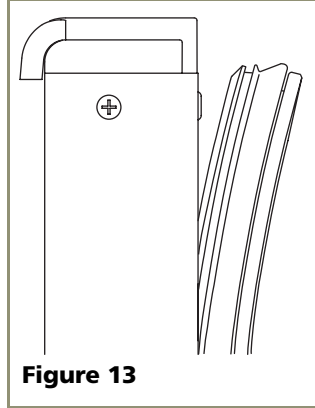

Figure 13
3. Pull door gasket out of groove (top edge of door only). Start in the middle and pull outward, moving toward the edge (see **Figure 13**). This may take some force. Do not remove the three screws behind gasket.